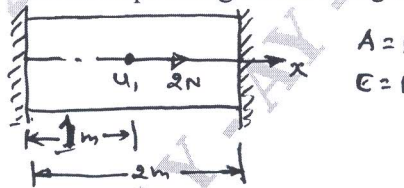

Fig.Q.1(b)
- b. Fig.Q.1(b) shows a bar fixed at both ends subjected to an axial load as shown. Determine displacement at loading point and corresponding stress using R-R method. (10 Marks)